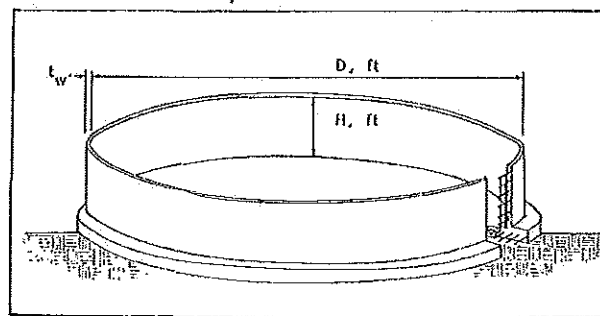
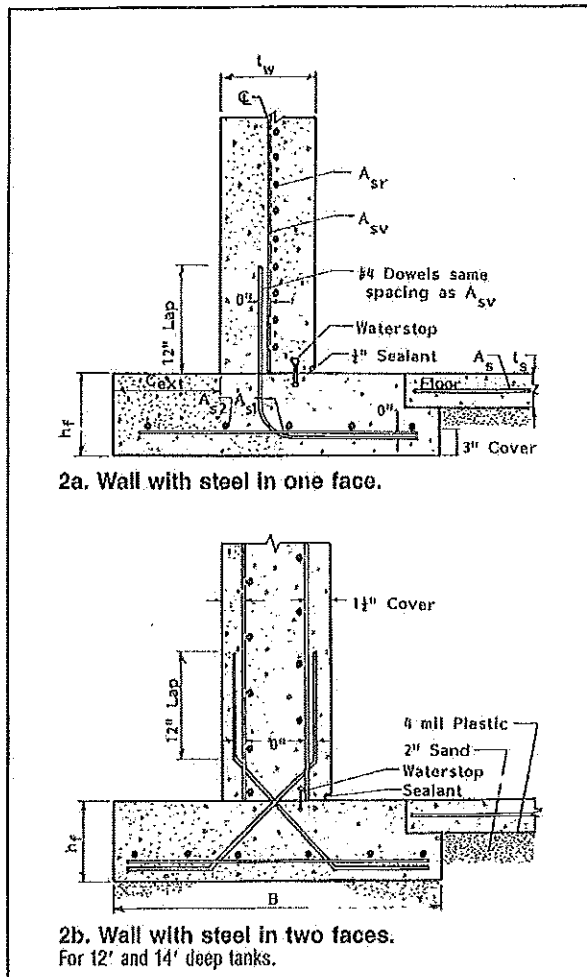

Fig 1. Round concrete manure tank.
Fig 2. Wall to floor joints.
Background: NRCS reviewed and approved the use of this version of MWPS TR-9 dated November 1983 and determined it was valid for both even (+/-4 feet) and un-even backfill (wall height -3 feet) tank situations. This was issued in Bulletin PA 210-0-6 dated February 6, 1990. The review report dated June 7, 1989 stated that the excessive reinforcing in the horizontal and vertical reinforcing along with the strength of footing was judged as meeting our medium life criteria for an unequal backfill condition. An additional Bulletin PA 210-2-3, allowed for kicker walls up to 4 foot without allowing for the uneven condition. Also, a Pennsylvania Supplement labeled "Figure 2" dated November 1983 allowed for the footer and floor as a monolithic placement and gave a floor steel schedule.
6. Figure 2, floor & footer joint detail can be replaced by attached Supplement to MWPS TR-9, Figure 2 revised 11/13 to allow for monolithic placement of floor and footer and also shows required As for floor. Steel placement is not changed.
7. Design documentation should include printing out the four pages and label with project name, show tank depth and diameter on Figure 1, floor joint on Figure 2 or use supplemental floor joint dated 11/13, circle steel from Table 2 and 3 for footer steel and appropriate wall steel from one of tables 4 thru 7. Selection of wall steel for intermittent diameters requires selecting the next higher diameter.
14. Agitation and access points require a 12" thick stone pad over properly compacted fill for all locations. Sites with axle loads exceeding 8K can choose to add (6) extra horizontal #6 bars @4" o.c. starting at top of wall and extending 12' beyond opening on each side for single mat or add (3) extra horizontal #6 bars for double mat tanks.
- Wall reinforcement from Table 6, $D = 90'$, and from Fig 2.
- Fig 2 shows the joint between wall and footing.
Joints need to be watertight to prevent leakage and to protect the reinforcing steel. Position a commercially available water stop on the inside of the steel. Also put a $\frac{3}{4}$ " deep by $\frac{1}{2}$ " wide insert in the form next to the bulkhead to make a notch for caulking. A similar notch in the wall next to the floor is for caulking and is illustrated in Fig 2.